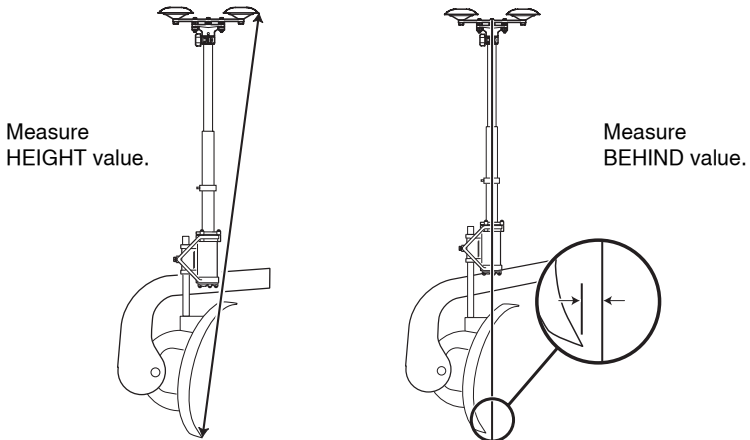

Figure 6-3. Measure Antenna for Motorgrader
3. Pull a stringline from the top of the pole to the cutting edge, keeping the stringline centered to the pole. Measure the distance from stringline to cutting edge (Figure 6-3).
4. To measure the *height* value, keep the antenna in the same position and measure the distance from the cutting edge to the leading edge of the leading antenna (Figure 6-3).